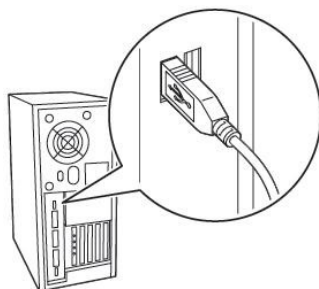

Fig. 1-11
- 1) Connect the USB cable (flat shape) to the USB port of the computer as Fig. 1-11.